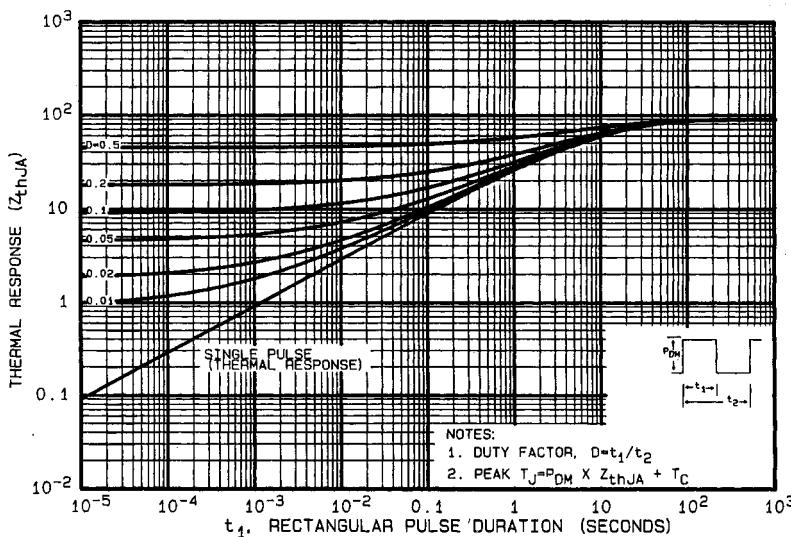

Fig. 9 — Maximum Effective Transient Thermal Impedance, Junction-to-Ambient Vs. Pulse Duration
- ① Repetitive Rating; Pulse width limited by maximum junction temperature (see figure 9). Refer to current HEXFET reliability report.
- ② @  $V_{DD} = 25\text{V}$ . Starting  $T_J = 25^\circ\text{C}$